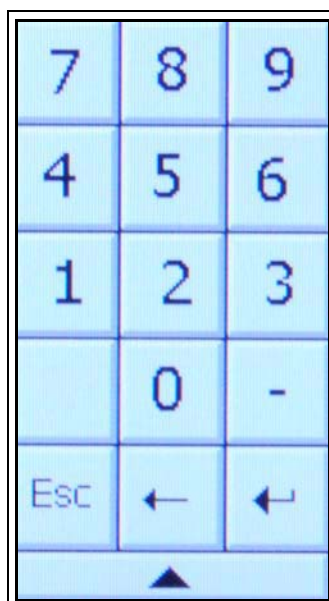

Figure 4N Number Keypad
2. In the "Modify Spout Positioning" screen select the spout that requires adjustment by touching the value pad next to the spout number balloon. A number keypad will display. (See Figure 4N.)